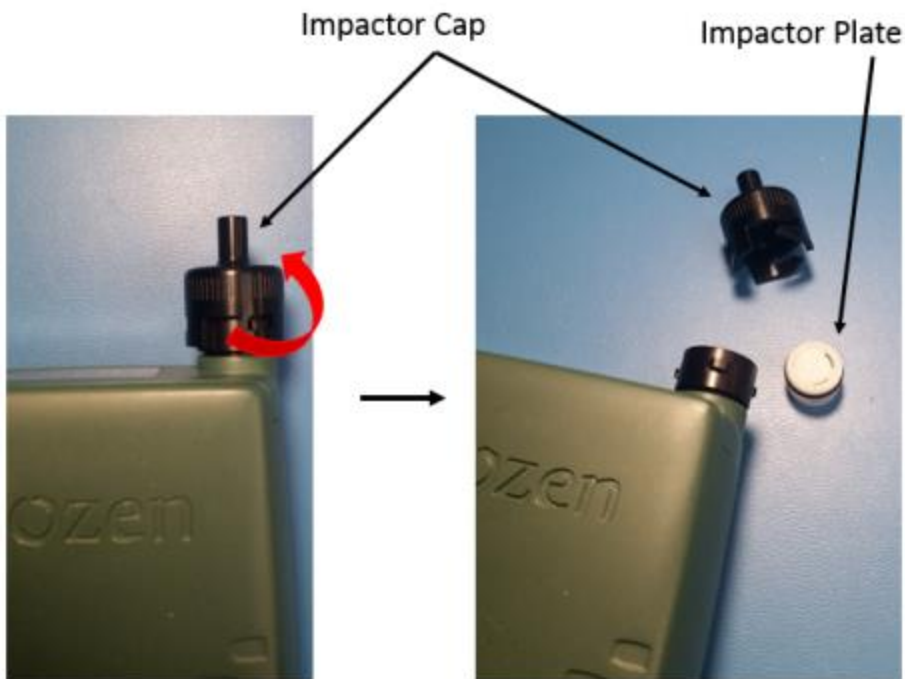

Figure 1 Removal of Impactor plate
2. To access the impactor plate, the impactor cap must be removed. Rotate the cap until it is unclipped and pull it away from the DustCount 8899 unit to remove it, see **Figure 1**.